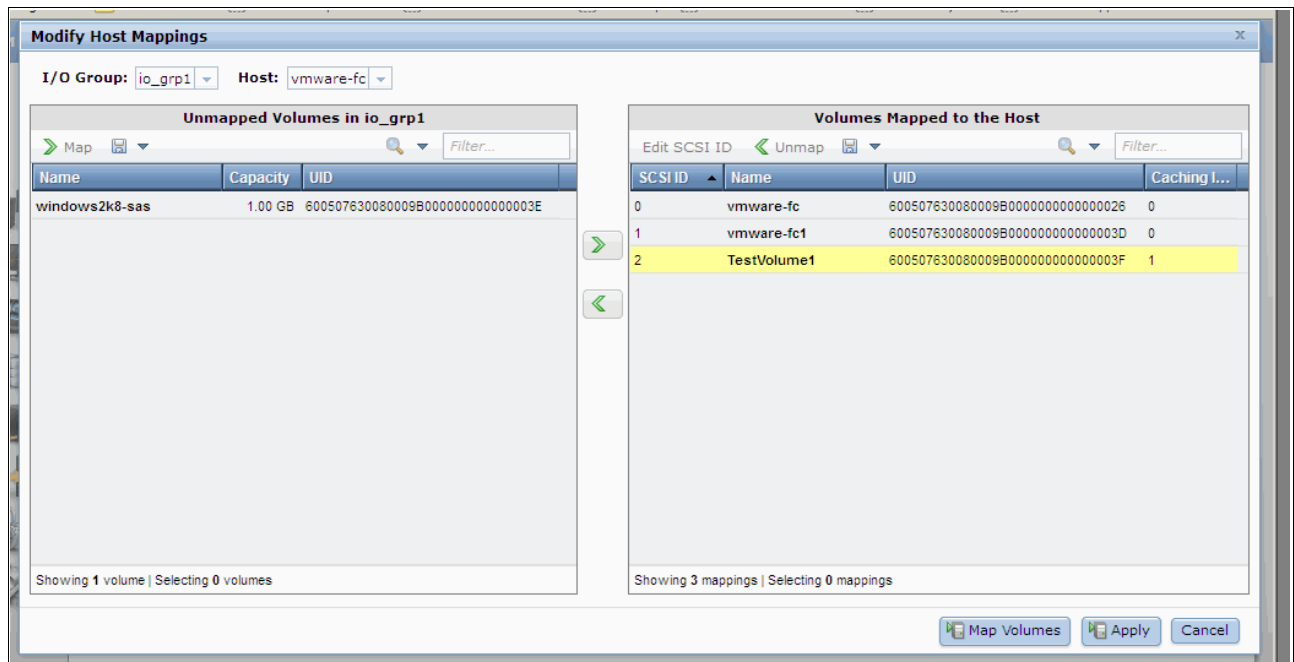

Figure 5-24 Modify Host Mappings window
3. The Modify Host Mappings window opens and your host and the created volume is already selected. Click **Map Volumes** and the volume is mapped to the host, as shown in Figure 5-24.